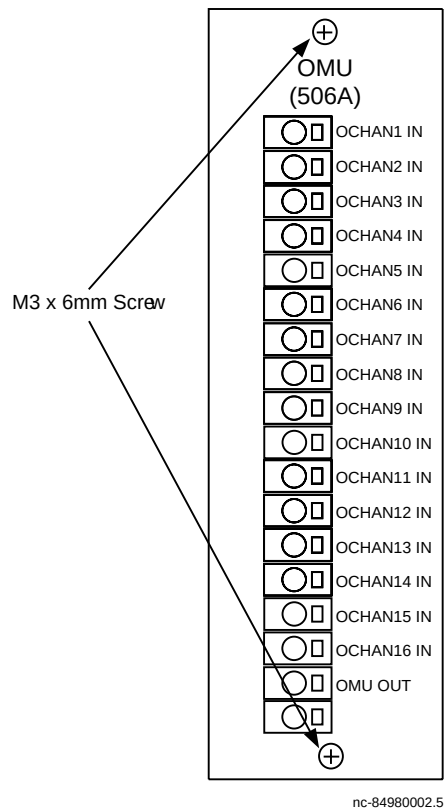

Figure 3 — OMU (506A) Screw Locations
- a. Verify that the top and bottom screws have not been placed back in the shelf, (see Figure 3 or 4).
8. Use a *Phillips* screwdriver to install the top and bottom OMU/ODU screws to mount the unit to the shelf, (see Figure 3 or 4).